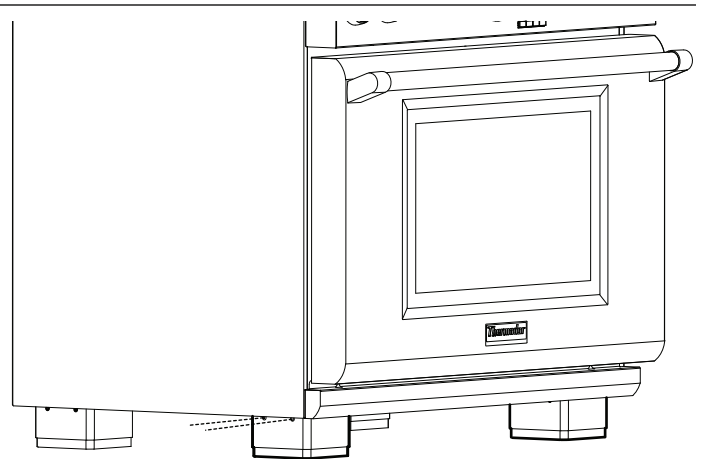

Figure 28: Leg Cover Mounting Holes
1. Remove the screws securing the leg covers (see *Figure 28: "Leg Cover Mounting Holes"*). Dismount the leg covers from the extruded dimples.
5. Mount the Toe Kick Panel on both sides of the unit into the extruded dimples using the (4) T-20 Torx drill point screws provided.